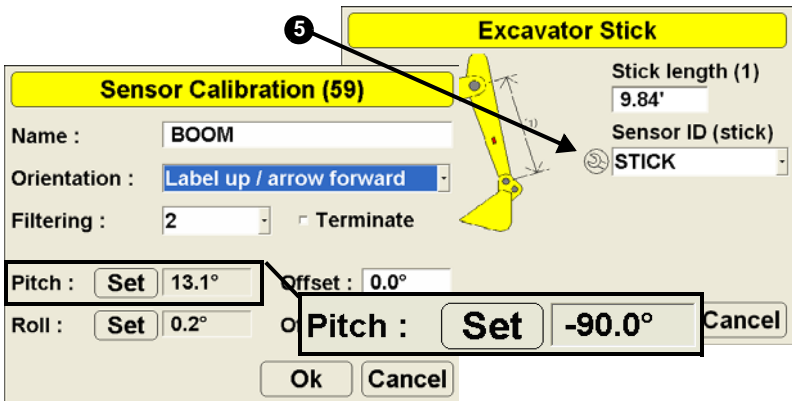

Figure A-13. Set Pitch Value to -90.0
5. Tap the Wrench button for the stick sensor (Figure A-13 on page A-14).
6. Set the pitch to -90.0 and press Ok (Figure A-13 on page A-14).